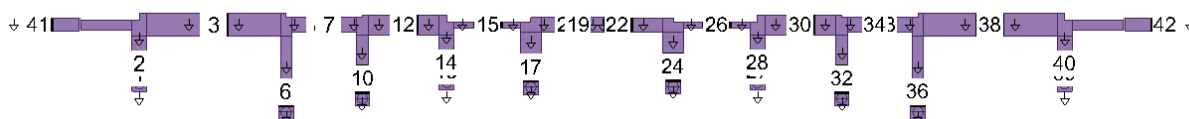

Figure 8. EM structure of the filter.
While not performed in the original design process for this particular filter example, designers may also want to use the AWR AXIEM 3D planar electromagnetic (EM) simulator to perform an EM/circuit co-simulation. In an EM/circuit co-simulation, the microstrip interconnects and vias would be analyzed with AWR AXIEM software, while the components would still be analyzed within the Microwave Office circuit simulator. For comparison purposes, we can show the EM/circuit co-simulation results here. Figure 8 shows the EM structure of the filter that will be analyzed with AXIEM. Note that for both the circuit simulation already presented and the EM/circuit co-simulation, the Sim_mode parameter of all models is set to 0. This setting enables the models to account for all real-world parasitic, substrate, and solder-pad effects.